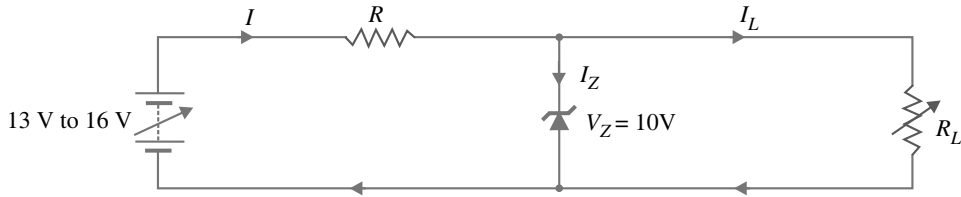

Fig. 4.74
**Example 4.44.** A 10-V zener diode is used to regulate the voltage across a variable load resistor [See Fig. 4.74]. The input voltage varies between 13 V and 16 V and the load current varies between 10 mA and 85 mA. The minimum zener current is 15 mA. Calculate the value of series resistance  $R$ .